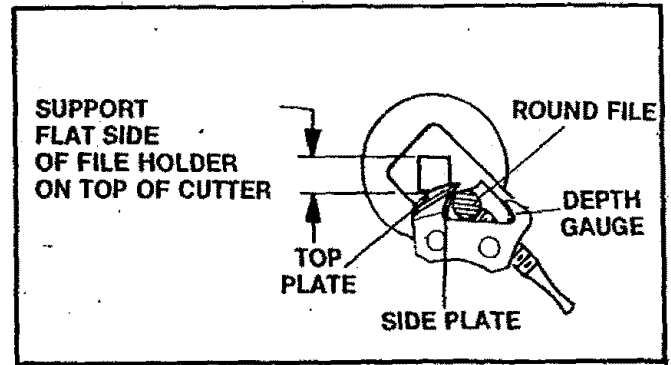

Figure 22
4. Support the square rod on the file holder (with 5/32" round file) on cutter top plate. Figure 22.